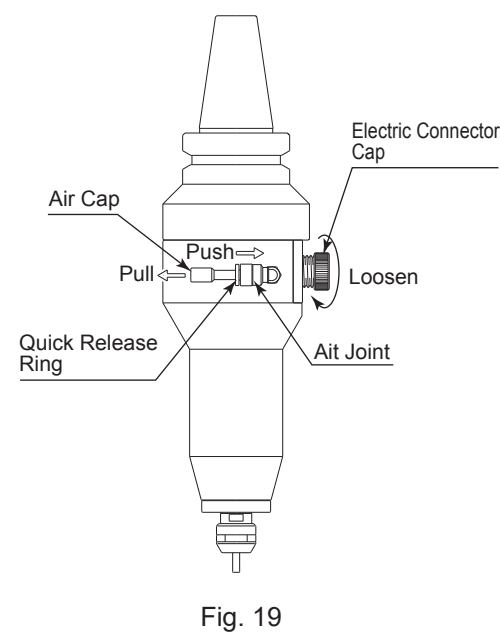

Fig. 19
- Remove the Electric Connector Cap from the HES Brushless Motor Spindle by turning counterclockwise (Fig. 19).
- Remove the Air Cap from the HES Brushless Motor Spindle's Air Joint (Fig. 19).